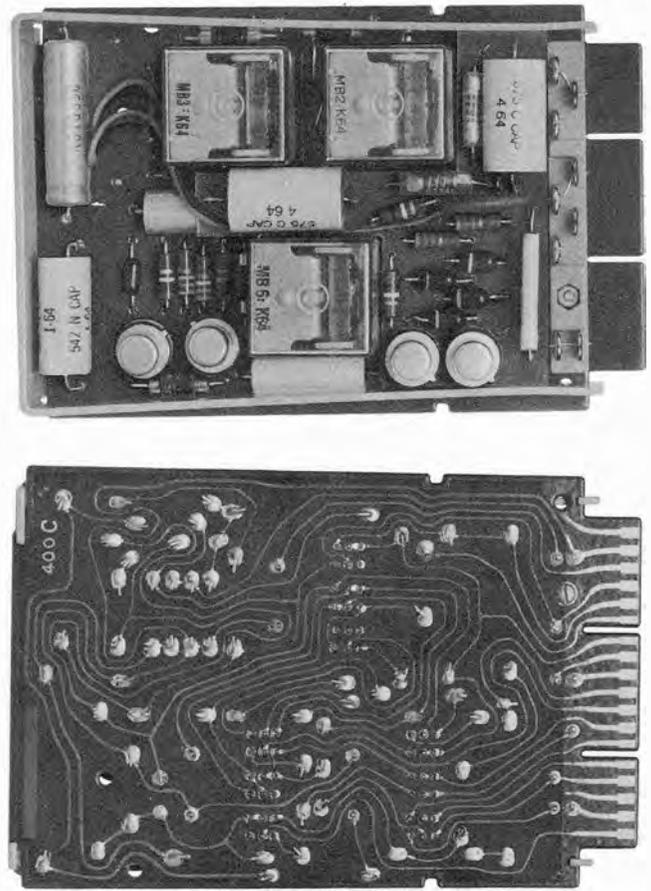

Fig. 2 — 400C Key Telephone Unit
2.08 The 400C KTU (Fig. 2) is designed specifically for use on CO or PBX lines subject to 60-cycle induction above 12 volts rms. In all other aspects, it is equivalent to the 400B unit.